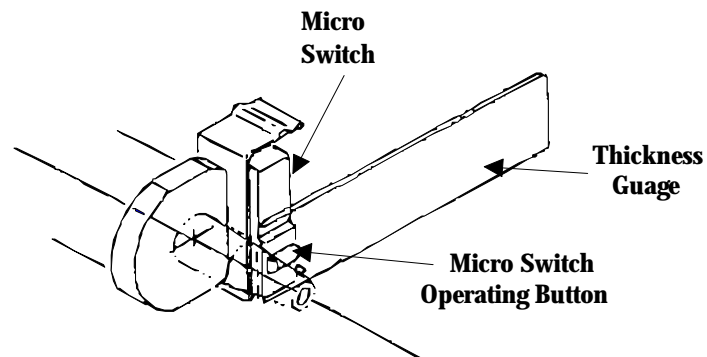

Figure 8B
5. (refer to **figures 8B, C, and D**) Place a 0.3mm feeler gage on the micro switch operating button. Slide the jamming switch actuator onto the nozzle shaft. **Push the jamming switch actuator toward the nozzle body trapping the feeler gage between the shoulder of the actuator and the body of the micro switch.** The micro switch will be actuated while completing the measurement. **This measurement will ensure that the Jamming Switch Actuator does not hit against the Jamming Switch body.** Tighten both set screws on the jamming switch actuator using the 1.5mm allen wrench. This will set a gap of 0.3mm (0.012inch) between the shoulder of the actuator and the body of the micro switch.